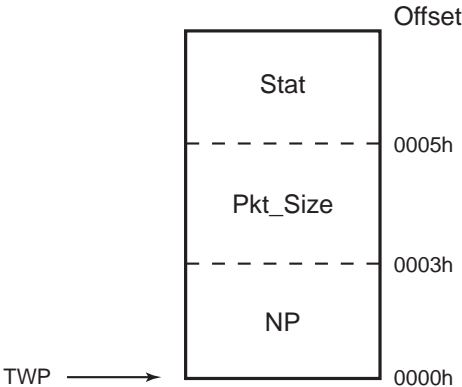

Figure 62. Descriptor Table Entries
The TxDMA module moves the next packet to be transmitted from EMAC memory into the Tx FIFO. Whenever the polling timer expires, the TxDMA reads the High status byte from the Tx descriptor table pointed to by the Transmit Read Pointer, TRP. Polling continues until the High status read reaches bit 7, when the Emac\_Owns ownership semaphore, bit 15 of the descriptor table (see Table 179 ) is set to 1. The TxDMA then initializes the packet length counter with the size of the packet from descriptor table bytes 3 and 4. The TxDMA moves the data into the Tx FIFO until the packet length counter downcounts to zero. The TxDMA then waits for Transmission Complete signal to be asserted to indicate that the packet is sent and that the Transmit status from the EMAC is valid. The TxDMA updates the descriptor table status and resets the ownership semaphore, bit 15. Finally, the Tx\_DONE\_STAT bit of the EMAC Interrupt Status Register is set to 1, the address field, DMA\_Address, is updated from the descriptor table next pointer, NP (see Figure 62 ). The high byte of the status is read to determine if the next packet is ready to be transmitted.
The descriptor table contains three entries: the next pointer (NP), the packet size (Pkt\_Size) and the packet status (Stat), as shown in Figure 62.